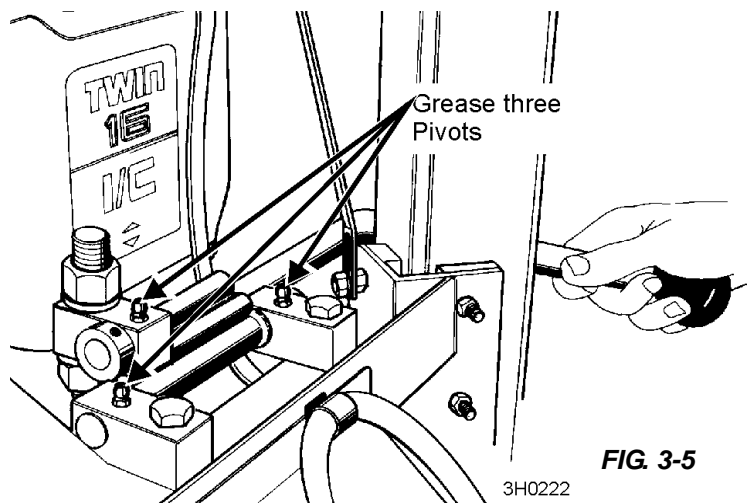

FIG. 3-5
- 50 3. Grease the three clutch/brake handle pivots with a NLGI No. 2 grade lithium grease every fifty hours of operation. **See Figure 3-5.**